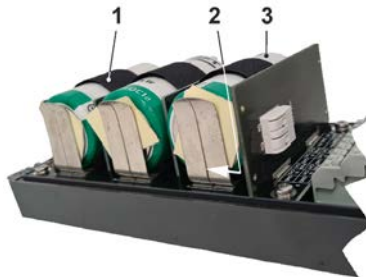

Fig. 25-1 SIM card slot
2. Unthread the eyelet strap (Fig. 25-1 Pos. 1) and remove the battery (Fig. 25-1 Pos. 3) from the battery holder on the separating wall as described in chapter "48.1 Battery Replacement".
The SIM card slot (Fig. 25-1 Pos. 2) is accessible.